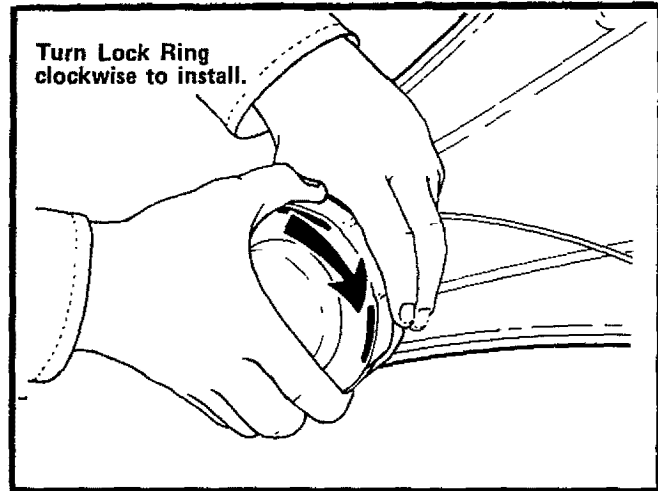

Figure 22
- Replace the tap button; press lock tab and install the lock ring. Turn the lock ring clockwise → and fasten under the catches on the housing. Figure 22. Check to be certain all catches are properly secured.